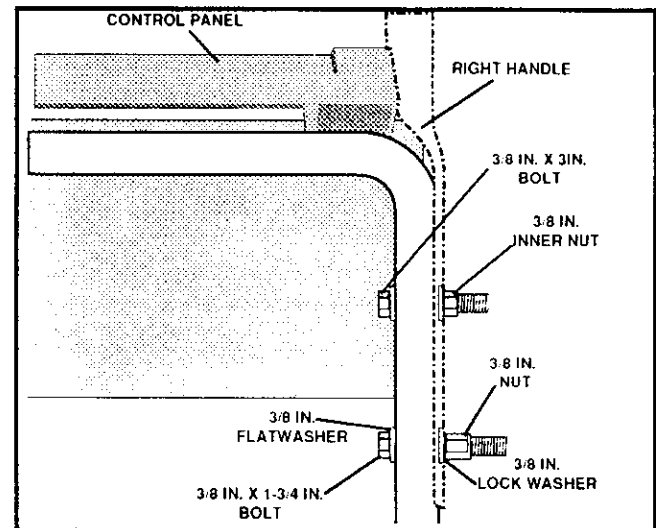

FIG. 4A
- With the two 9/16" wrenches, loosen (but do not remove) both bolts securing the upper and lower handles by holding the inner nut on the inside of the handle while turning the outside bolt counter-clockwise as shown in FIG. 4A, in this section of the manual.
- On the right side of the handle, install and secure the following parts (found in parts box) in the lower handle hole as shown in FIG. 4A: